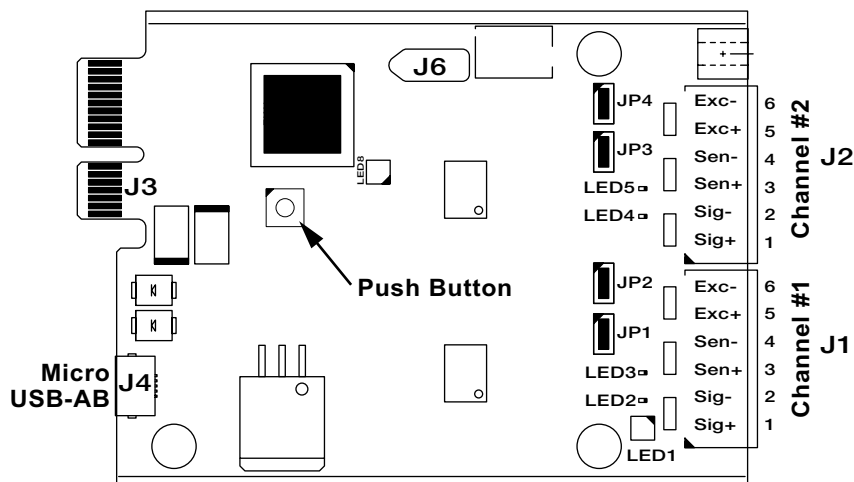

Figure 12-7. Second generation Single and Dual A/D Scale Cards
6. While holding down the card's push button, plug the USB micro end into the J4 connector (see Figure 12-7). PC detects a removable USB device called *CRP DISABLD*.